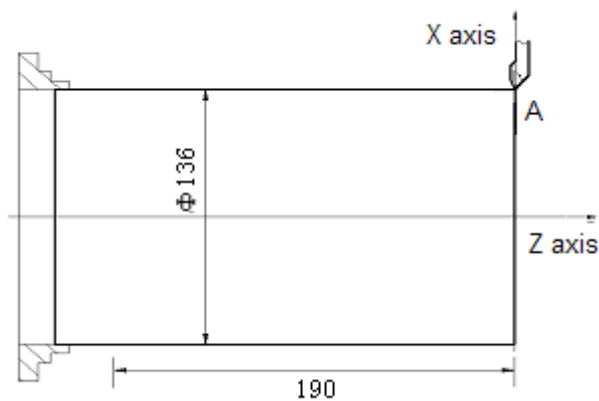

Fig.10-10
- (11) Switch the tool to the tool offset page and move the cursor into #003 offset, input X135 and Z0, and the input operation is same as the 8th step;
- (12) Move the tool into the safe position, and execute the 4th tool by pressing the tool change key in Manual mode;
- (13) Move the tool into the tool setting position, which is shown as Fig. 10-10, point A: